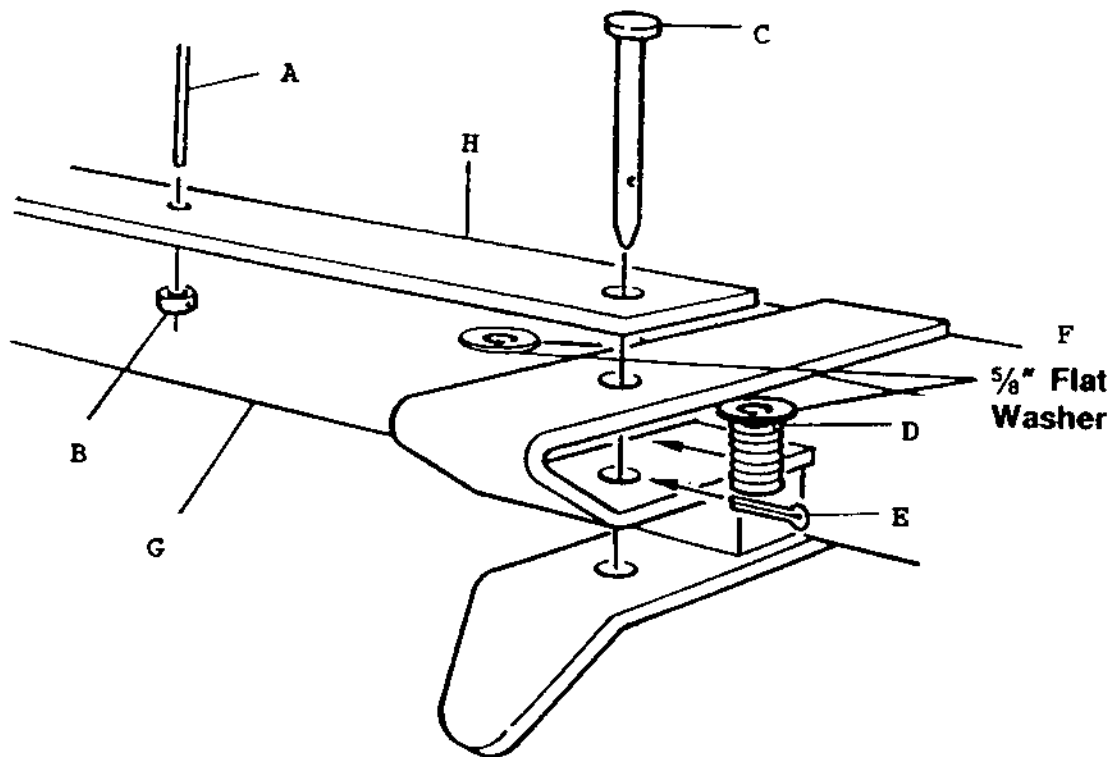

Figure 1
3. Assemble the PUSH BEAM ASSEMBLY (Ref. No. G, Fig. 1) as shown.
PARTS LIST (FIGURE 1)